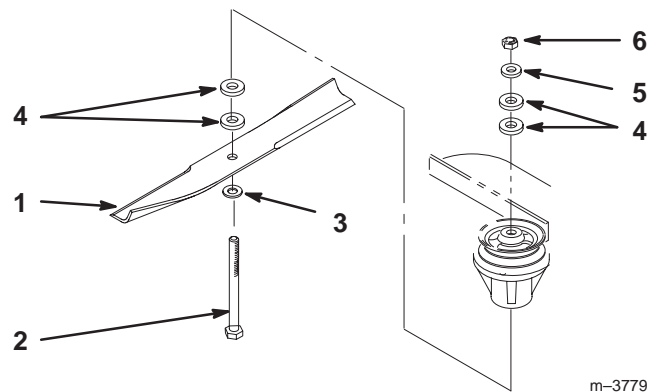

Figure 15
3. Hold the blade bolt and remove the nut (Fig. 15).
4. Slide the bolt down through the spindle, and change the spacers as needed (Fig. 15).
5. Insert a bolt, add extra spacer(s), and secure them with a thin washer and a nut (Fig. 15).